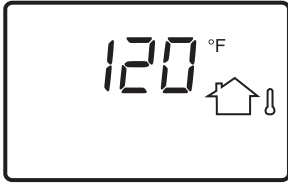
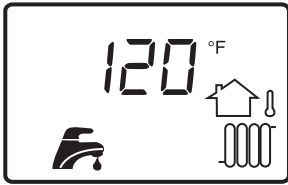

Figure 15-4: Home screen at power up (no call for heat)
Figure 15-5: Home screen with CH and DHW demands
7. Start boiler using lighting instructions in Figure 15-9. With boiler powered up, and with no call for heat, display should look like Figure 15-4. Once a call for heat is present, it will look like Figure 15-5.